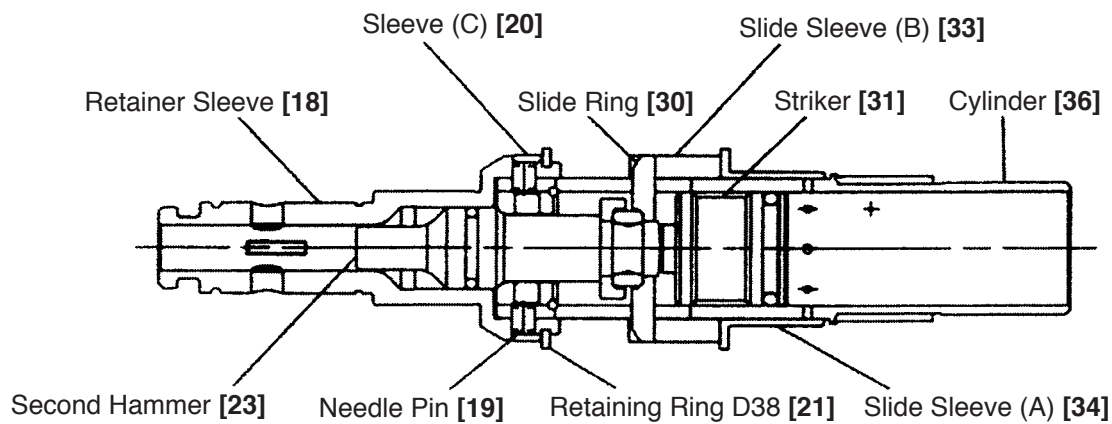

Fig. 16
Remove the Retaining Ring **[7]** with a retaining ring puller. In this condition, stand the Cylinder Case **[9]** and pull out the Retainer Sleeve **[18]** from the Cylinder Case **[9]** with a hand press. Then the Sleeve **[16]** can be removed from the Retainer Sleeve **[18]**. The Retainer Sleeve **[18]**, Cylinder **[36]**, Second Hammer **[23]**, Slide Ring **[30]**, Slide Sleeve (A) **[34]** and Slide Sleeve (B) **[33]** can also be separated from the Cylinder Case **[9]** as a unit. (Fig. 16)